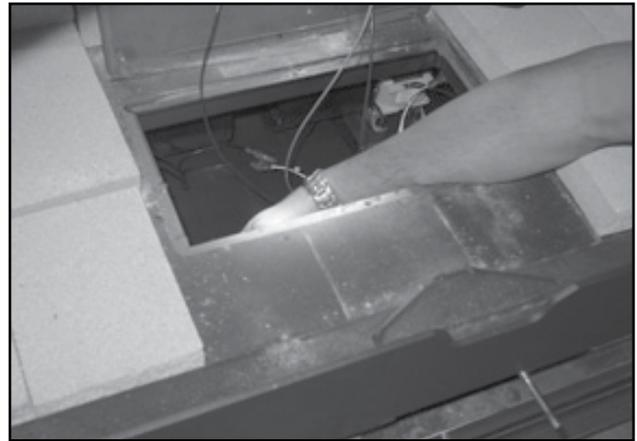

Figure 4.17
6. Remove 2 screws from timer mounting plate. Place your hand into the access door in the floor of the fireplace. Let the timer assembly and plate drop down and rotate it up through the access door. You will be looking at the back side of the assembly. Figures 4.17 & 4.18.